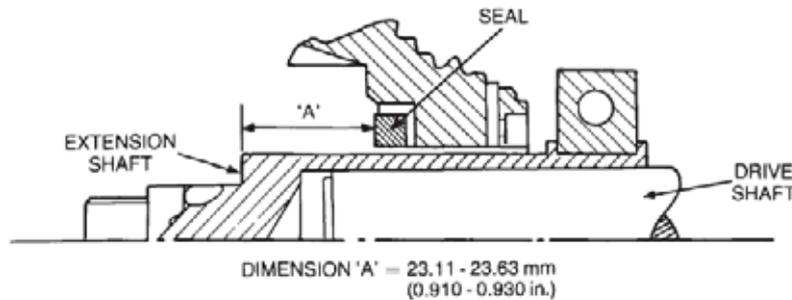

Figure 36 Seal to Impeller Measurement
- p. Using a vernier calliper or depth gauge, measure the distance between the water seal mating face and the shoulder on the extension shaft (Figure 36). The distance should be between 23.11–23.63 mm (0.910–0.930 in.).